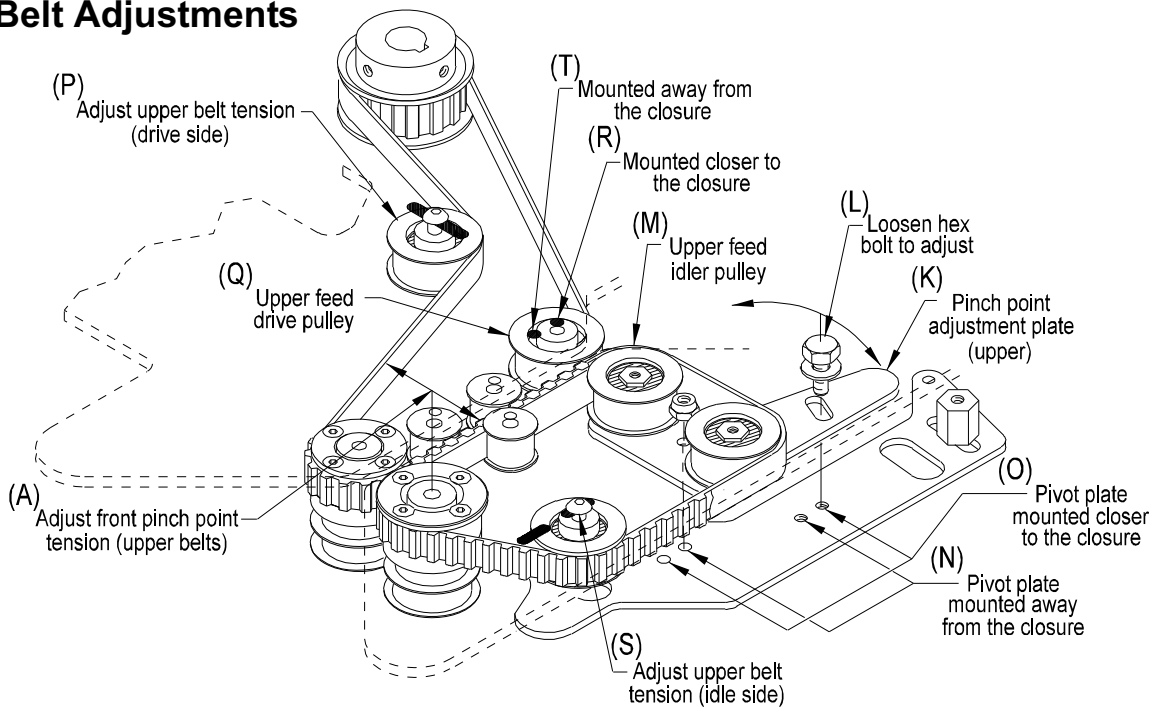
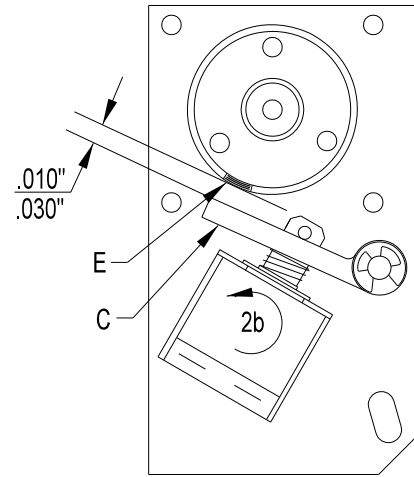

Figure 5.16
Figure 5.18
- a. Rotate the clutch until the clutch stop (E) contacts the actuating lever (C).
- c. Rotate the clutch until the clutch stop is under the edge of the actuating lever (Figure 5.18)
- d. Press on the clutch control collar at point (H), pressing the collar toward the solenoid coil (D).
- e. Press down on the end of the solenoid plunger (F) pressing it into the solenoid as far as possible.
- f. Proper clearance between the actuating lever and the clutch stop must be between .010" - .030" as shown in Figure 5.18.
- a. Loosen the two solenoid mounting screws (G) located on the back of the clutch mounting plate.
- b. Pivot the solenoid assembly so the end of the solenoid plunger is as far away from the actuating lever as possible. Figure 5.16.
- c. Press the control collar at point (H) to minimize the distance between the clutch stop and the clutch solenoid.